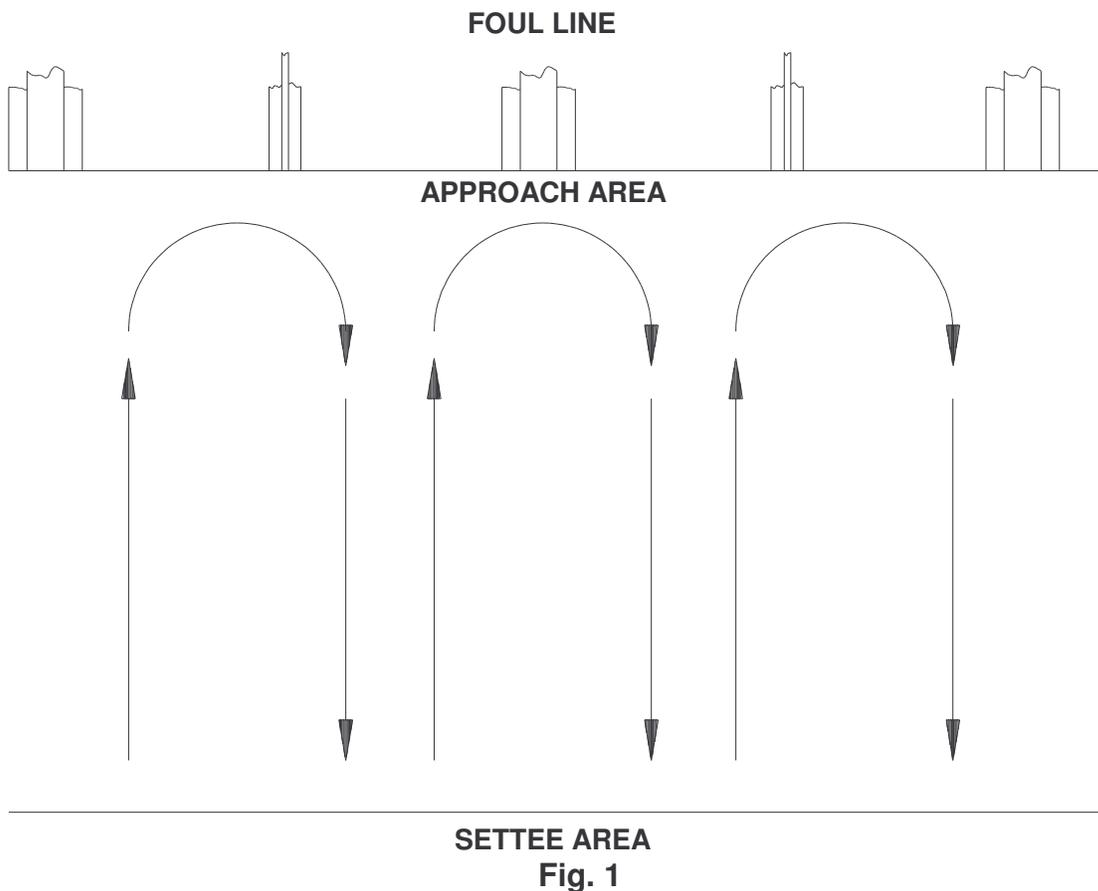

Fig. 1
- 4.2.2 The method used to dust the approach is to start at the back of the approach, push the mop to the foul line, turn and return back to the settee area pushing any dust and unwanted residue into the settee area to be cleaned up later. See fig. 1, page 14.